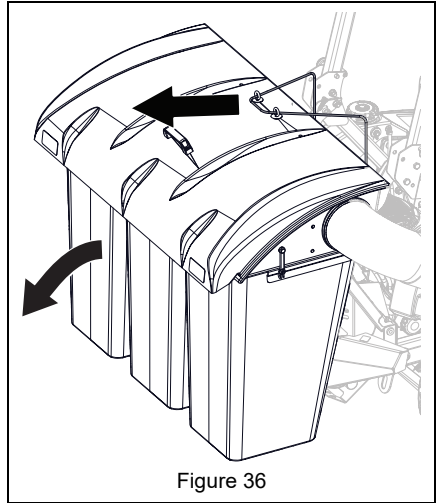

Figure 36
2. Support bagger and pull bagger rope. Lower bagger to ground and lift off bagger mounts. See Figure 36.